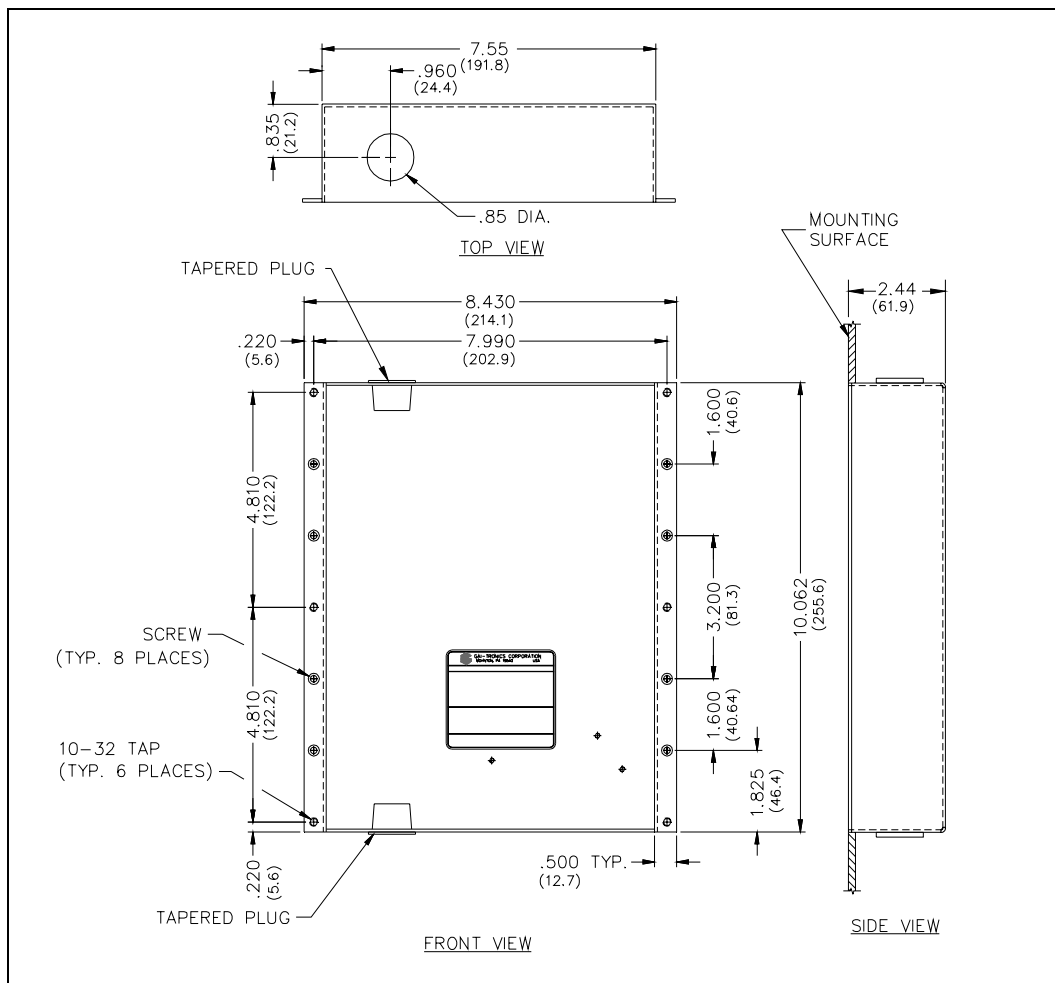

Figure 13. Model 297-003, 297-003TB1, 298-003 and 298-003HK1 Mounting Details
1. When mounting in a GAI-Tronics Model 234 Series Stanchion, or for flush-mount installations, the supplied back box must be used to mount the Model 297-003, 297-003TB1, 298-003, or 298-003HK1 Telephone. Mount the back box to the structure using the appropriate hardware. Refer to Figure 13 cutout dimensions.